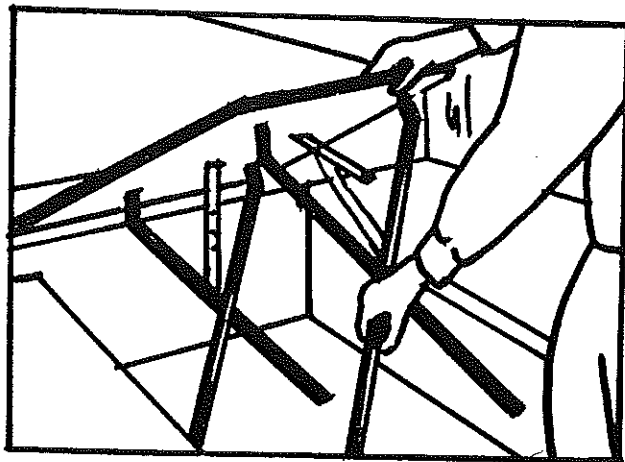

FIGURE 24
34. Extend the table legs completely so that both leg supports lock into position. Set table upright and check to insure it is stable. See Figure 24.
11. Secure the dinette table by locating it on the rests between the bench seats. See Figure 24.